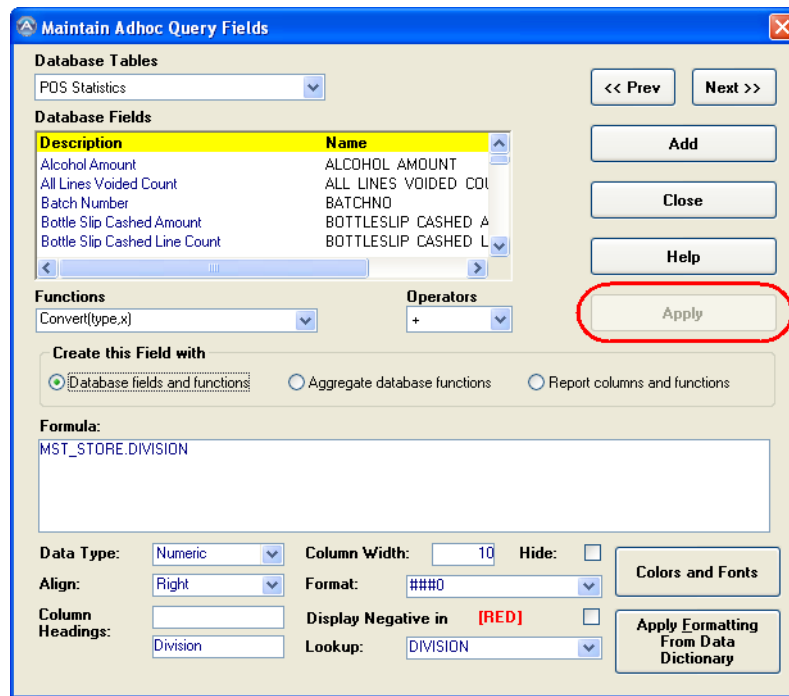

Figure 1-6: Maintain Adhoc Query Field
The following table lists and describes the parameters of the Maintain Adhoc Query Field window (Figure 1-6):
3. Click the **Update** button. The Maintain Adhoc Query Fields window is displayed (Figure 1-6 on page 14).